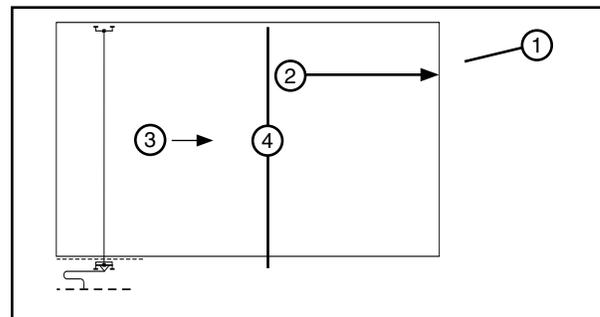

Figure 39-3 1. Field 2. Direction of Travel 3. Wet 4. STOP
7. The percentage timer is set at the desired application rate and the system is started at one end of the field and run wet (irrigating) to the middle of the field and stopped. See Figure 39-3.